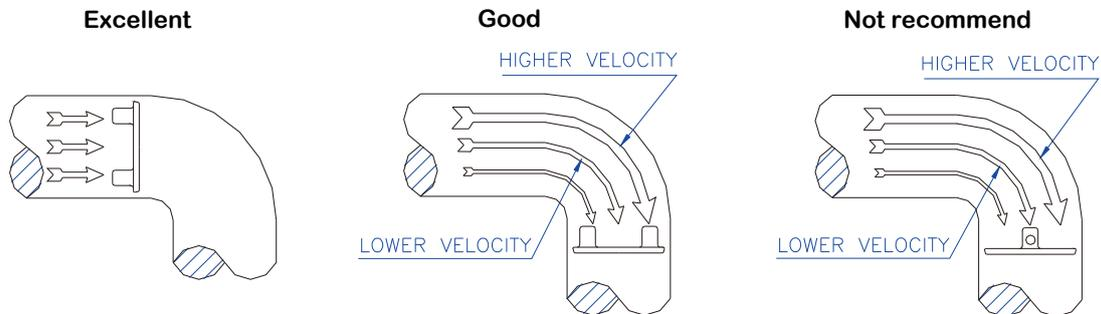

Fig.5
4.7. The typical installation for the butterfly valve connected to an elbow would be to align the shaft axis to allow equal flow on each side of the shaft, minimizing dynamic torque requirements for the valve Fig.5.